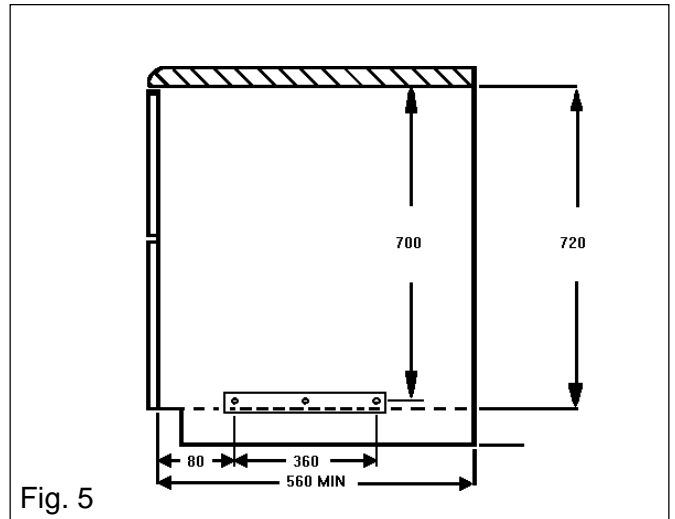

Fig. 5
- Make sure the space between the cabinets is the correct size for the appliance to be fitted (Ref. Fig. 5 & 6).
- Drill two pilot screw holes into the sides of the adjacent cabinets, in the positions indicated by Fig. 5.
- Fit the appliance mounting brackets using the two holes indicated in Fig. 7 to the adjacent cabinets (Ref. Fig.5 & 6)